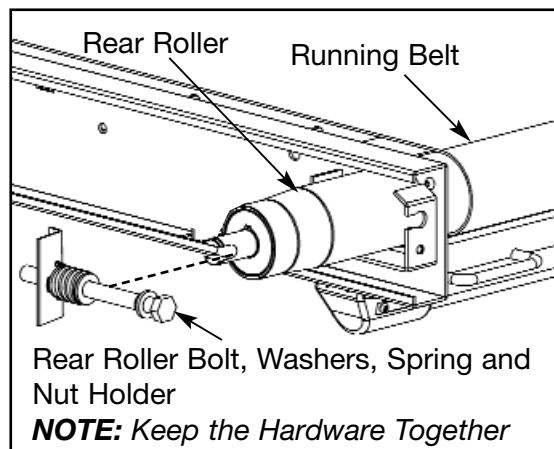

Figure 6
NOTE: Loosen each bolt evenly, making sure not to loosen either bolt too many turns before moving to the other bolt. See Figure 6.
from each side. **NOTE:** Pivot the bolt, washers, spring and nut holder out together. See Figure 6.
- C. Lift one side of the rear roller and slide the roller out of the running belt. See Figure 6.
- A. Slide the rear roller into the running belt. See Figure 6.